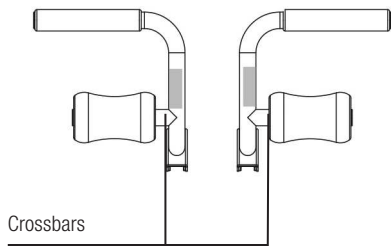

FIGURE 1
2. Then attach Foam Pads on the Crossbars as shown in Figure 1. Let dry before beginning to exercise with the Multi Function Attachments.